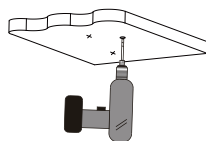

Fig.8
- Step5 Install the product on the place where you marked. (as fig.8)